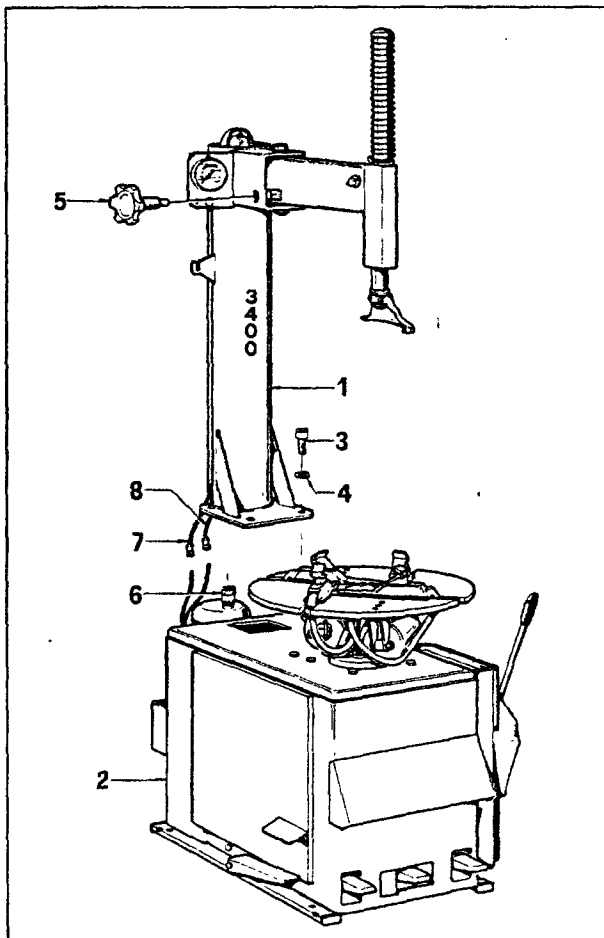

Fig.5
B. Assemble the adjustment knob (#5 Fig.5) to the tower.
C. Bolt the column #1 (Fig.5) to the cabinet #2 with the four screws #3 and washers #4. Screws must be firmly tightened.
D. Firmly tighten the clamp #6 Fig.5.